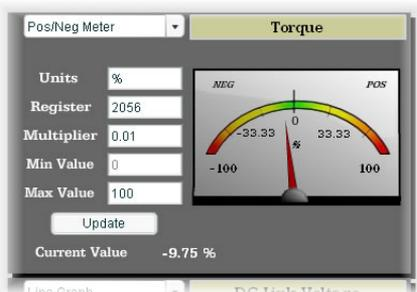

Figure 61: Pos/Neg Meter
**Pos/Neg Meter:** Refer to Figure 61. Similar to the “meter” gauge, this type of meter also implements a common panel meter-type display format, but in this instance the indicated value can be positive or negative (two’s complement interpretation). In other words, raw register values of 0..0x7FFF equate to 0..3276710, and values of 0x8000..0xFFFF equate to -32768..-1. Because the meter placard is always centered around zero, the “Min Value” attribute is not configurable, and the “Max Value” attribute is used for both the maximum positive indicated value as well as the maximum negative indicated value.